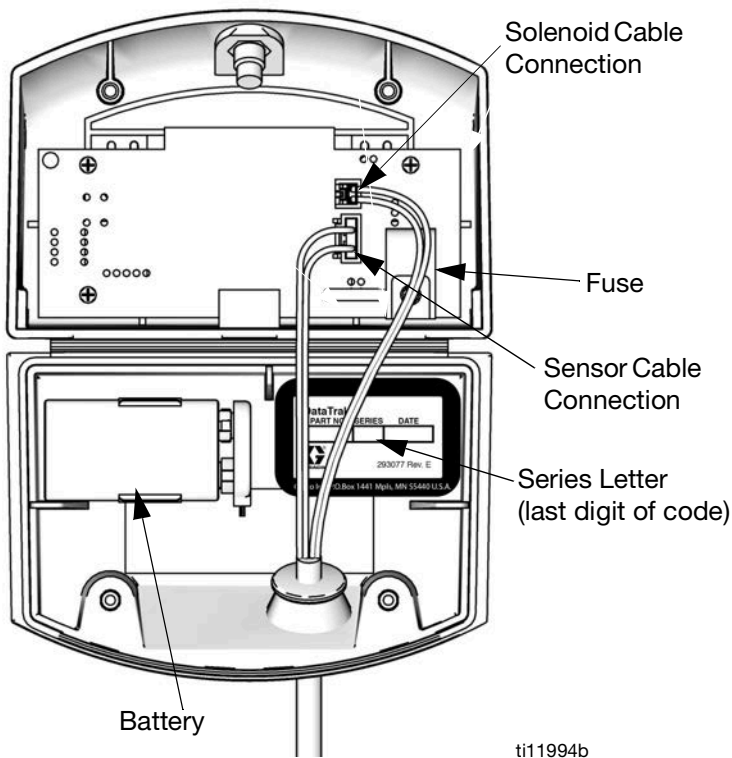

FIG. 12. DataTrak Battery and Fuse Location
* Fig. 12 shows where to find the Series letter.